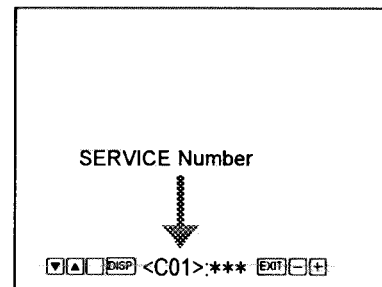

Fig.11
- ① Press the **CONTRAST** key from the <BLOCK SELECT> screen (SERVICE MAIN MENU).
- ② Then screen displays the CONTROL BLOCK adjustment screen (Fig.11)
- ③ The select item is shown by the SERVICE Number at the lower of the screen.
- ④ Key control operation are displays as same as the screen lower. The key operations of this mode are following as shown below.